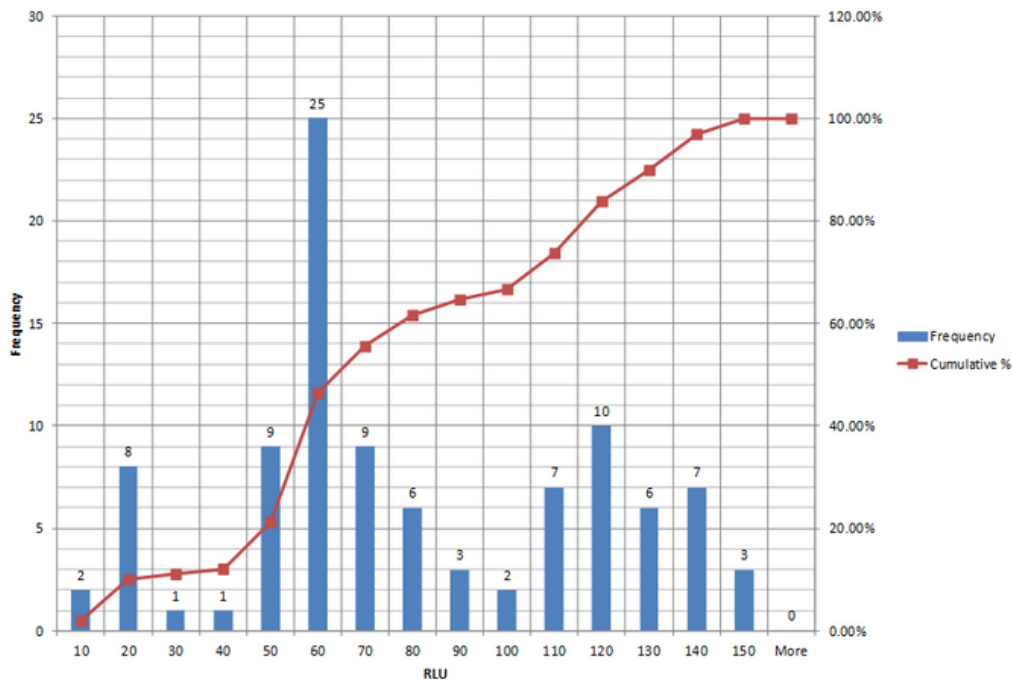

Figure 3. Example of a histogram chart showing RLU test results for pizza line from the demo database results.
6. The example histogram in figure 3 shows multiple peaks in the frequency of RLU test result values at 20 RLU, 60 RLU, and 120 RLU, which could indicate the cleaning process is sometimes achieving the level of cleanliness indicated by 120 RLU, and other times achieving the level of cleanliness indicated by 60 RLU, and yet other times achieving the level of cleanliness indicated by 20 RLU. This may indicate that the cleaning process is not consistent, and you should investigate the cause of this inconsistency. Another potential cause is that the data has been confounded by including Test Points expected to have three different levels of cleanliness (20 RLU, 60 RLU, and 120 RLU).